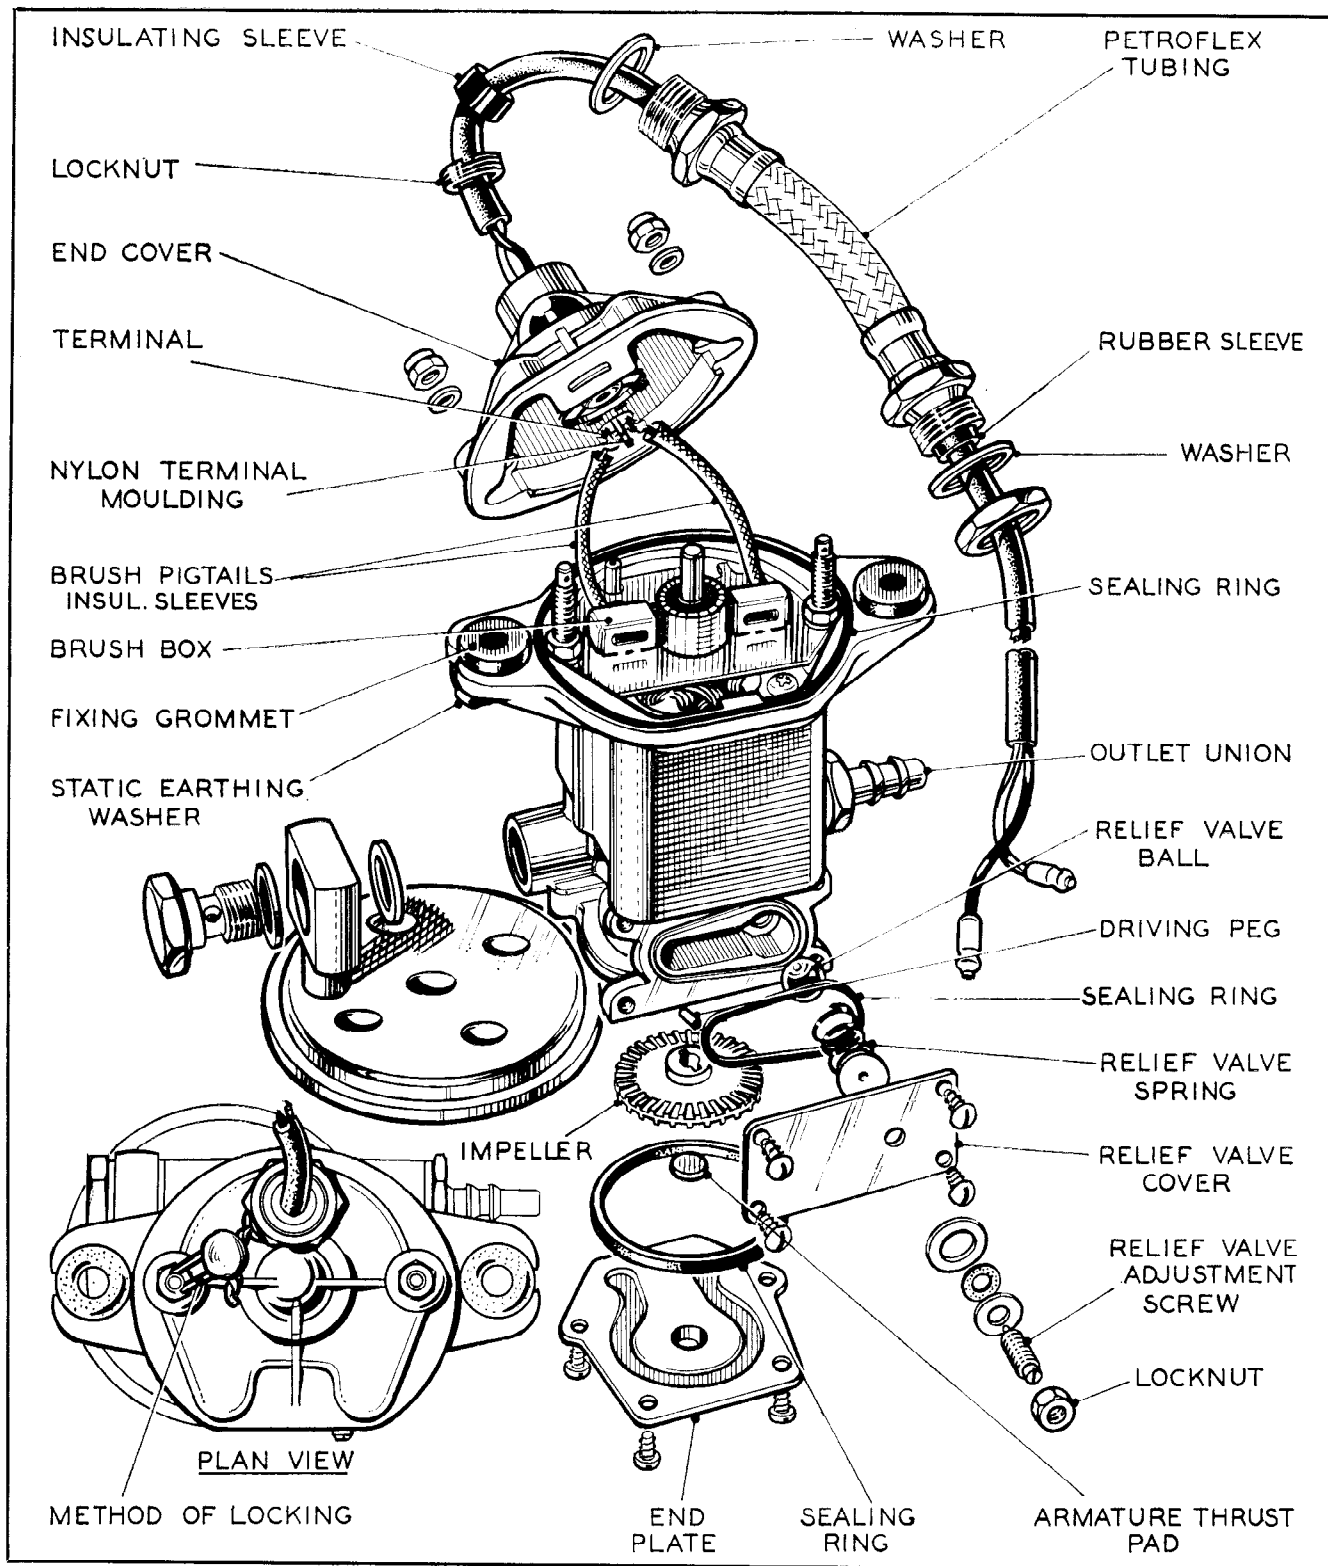

Fig. 2 Pump unit, dismantled
- (i) As shown in Fig. 2, Model 2FP is a composite unit containing, within a single body and between two end covers,